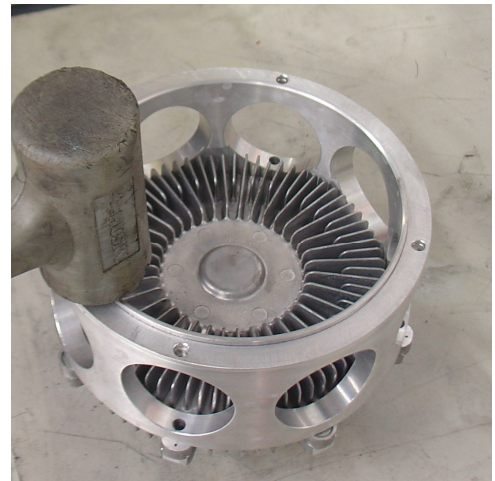

Figure 15
- Gently tap the spacer onto the hub with a rubber mallet *only if necessary* (Figure 15)